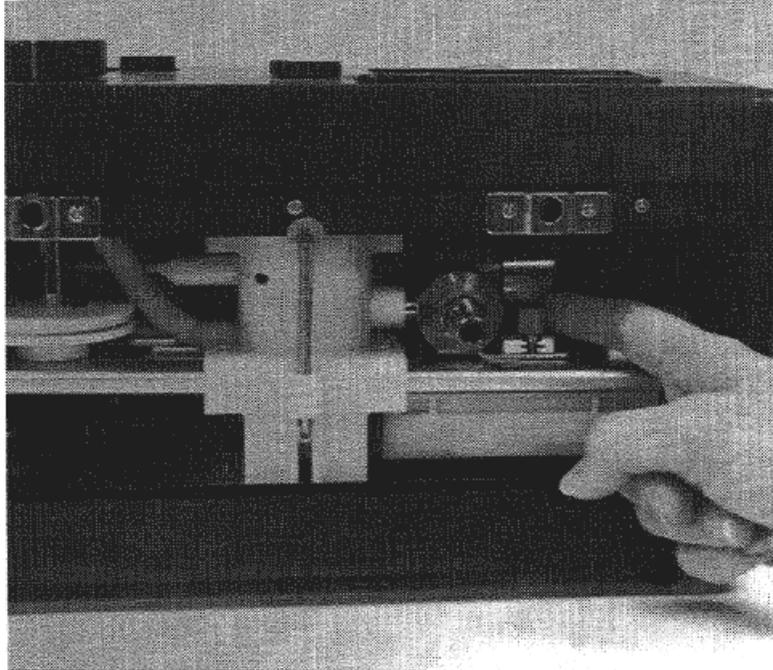

Figure 7. Installing the thumbscrew
Step 4. With the impactor in place, install the mounting thumbscrew (Figure 7).